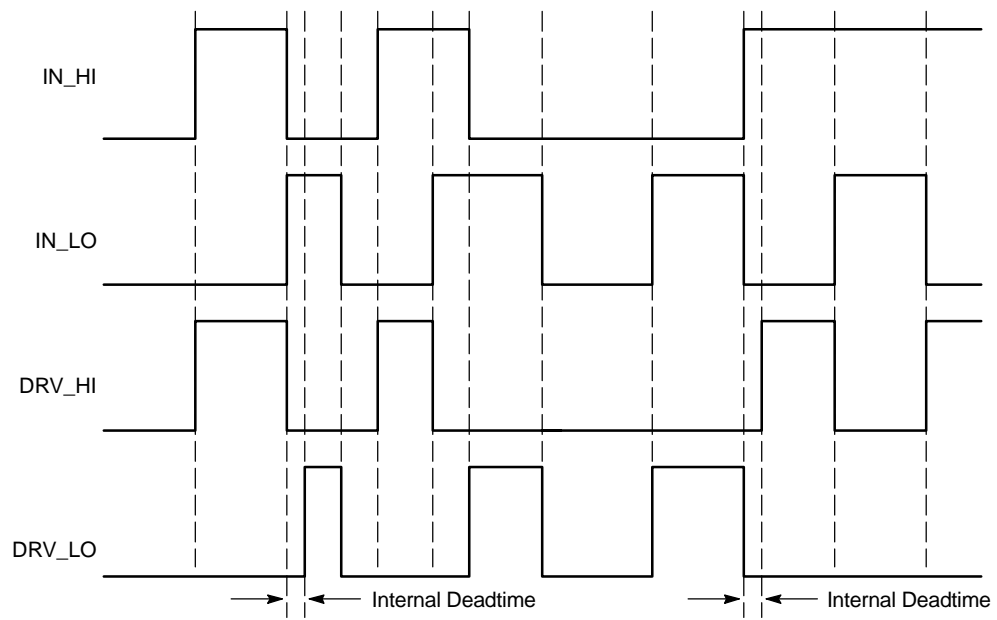

Figure 10. Input/Output Cross Conduction Output Protection Timing Diagram (B Version)
- Version B integrates a dead time in order to prevent any cross conduction between DRV_HI and DRV_LO . See timing diagram of Figure 10.